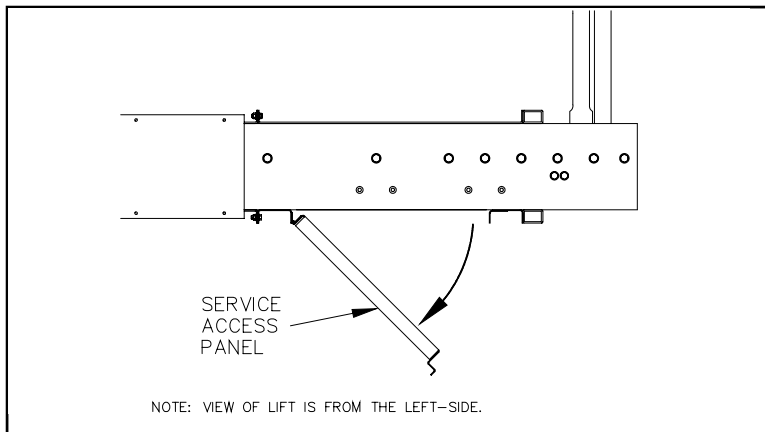

FIGURE 4-1: SERVICE ACCESS PANEL—OPEN
3. Refer to **Figure 4-1**. Hold service access panel up, remove the two retaining screws and lock-nuts at front edge of panel, and then lower panel.